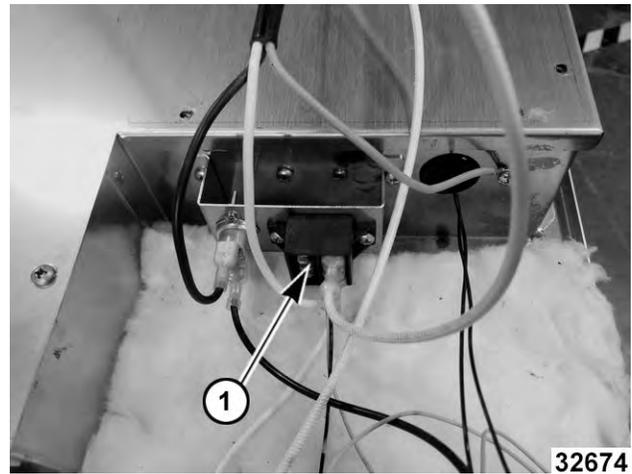

Fig. 16
3. Remove terminal block (1, Fig. 16) mounting screws.